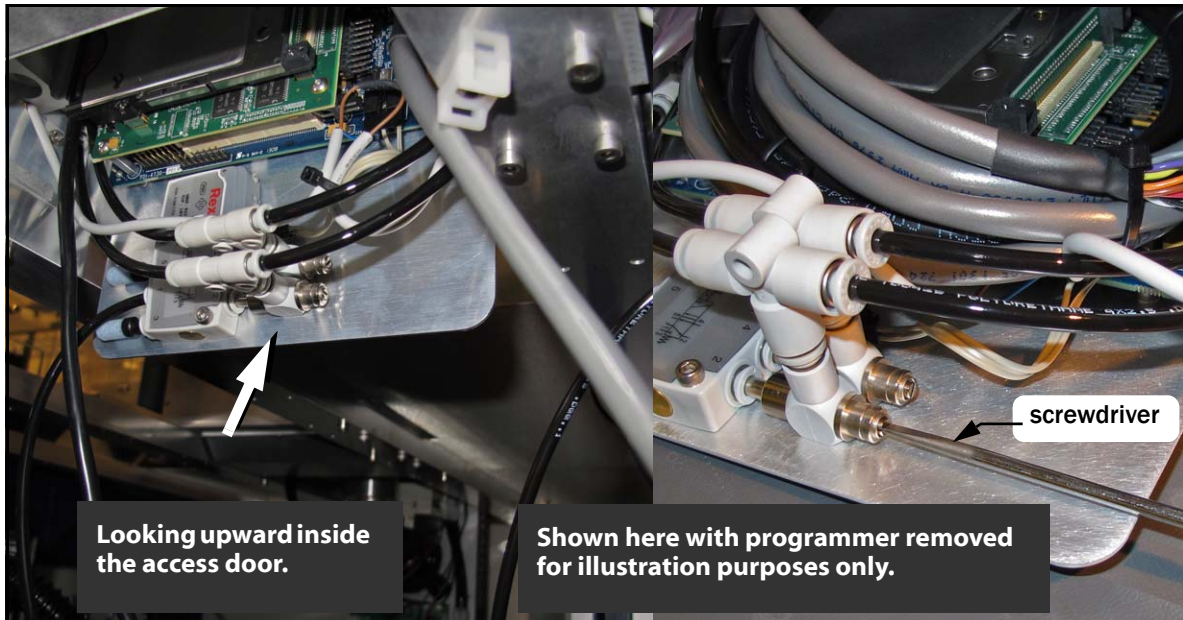

Figure 4-3: Actuator flow controls (arrow). The lower one (that the screwdriver is at) sets the UP speed.
3. Open the access door nearest the target programmer and locate the in-line air flow control for the up (sockets closed) position. Refer to Figure 4-3.